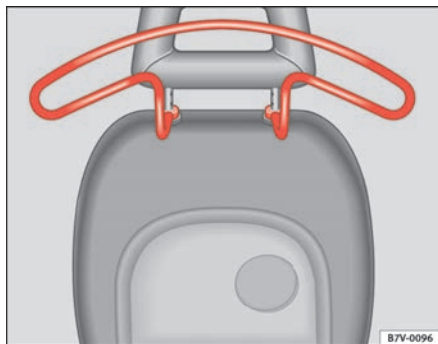

Fig. 107 Clothes hangers on the front seat
- Pull the clothes hanger³³⁾ off the rods of the head restraint ⇒ fig. 107.